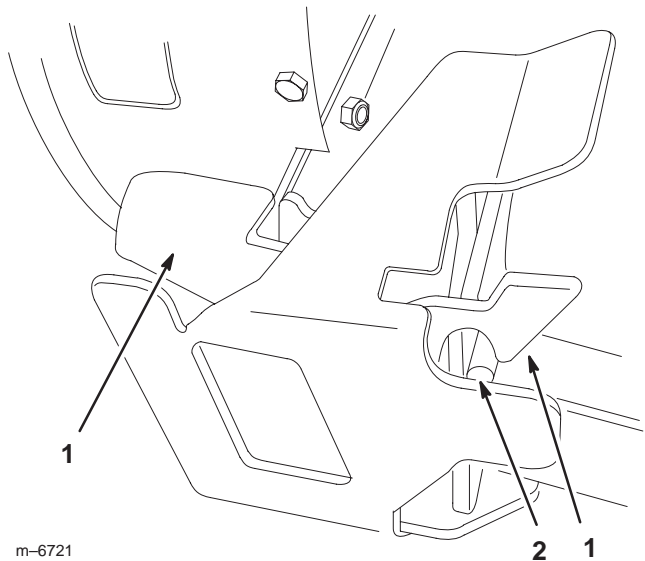

Figure 35
2. The blower latch must engage over the front peg (Fig. 35). If it does not, proceed to step 3 and lengthen the latch.